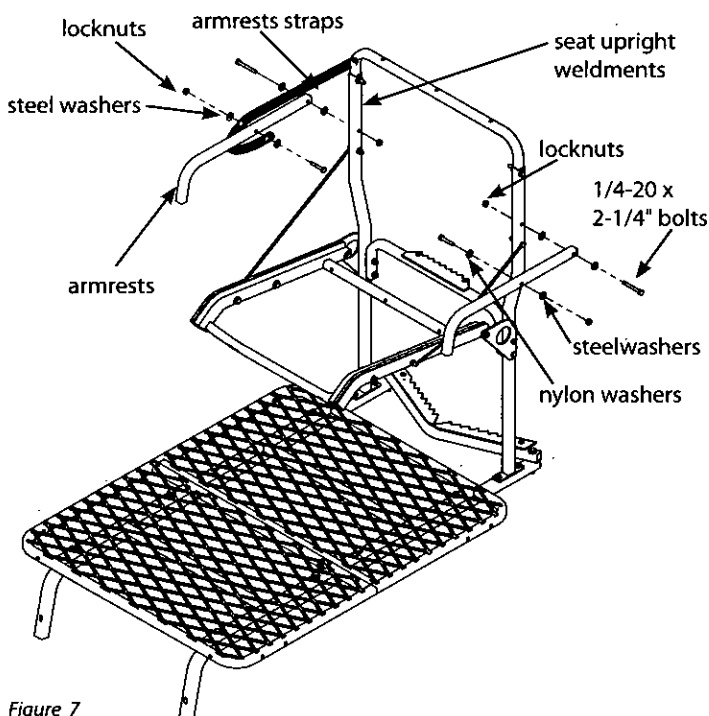

Figure 7
10. a. Using a rubber mallet, gently tap in (2) plastic pipe plugs (48869) into the short side of the armrest tubes.
b. Attach the armrests (410009) to the seat upright weldments using (2) provided 1/4-20 x 2-1/4" bolts, locknuts, steel washers and nylon washers. **SEE FIGURE 7.** Nylon washers should be placed between armrests and seat upright weldments.
c. Attach the loose end of the (2) armrest straps (410103) to the armrest using (2) provided (2) 1/4-20 x 1-1/2" bolts, locknuts and (4) steel washers. **SEE FIGURE 7.** Bolts must go through two holes on armrest straps. Armrest straps must wrap around bottom of armrests.